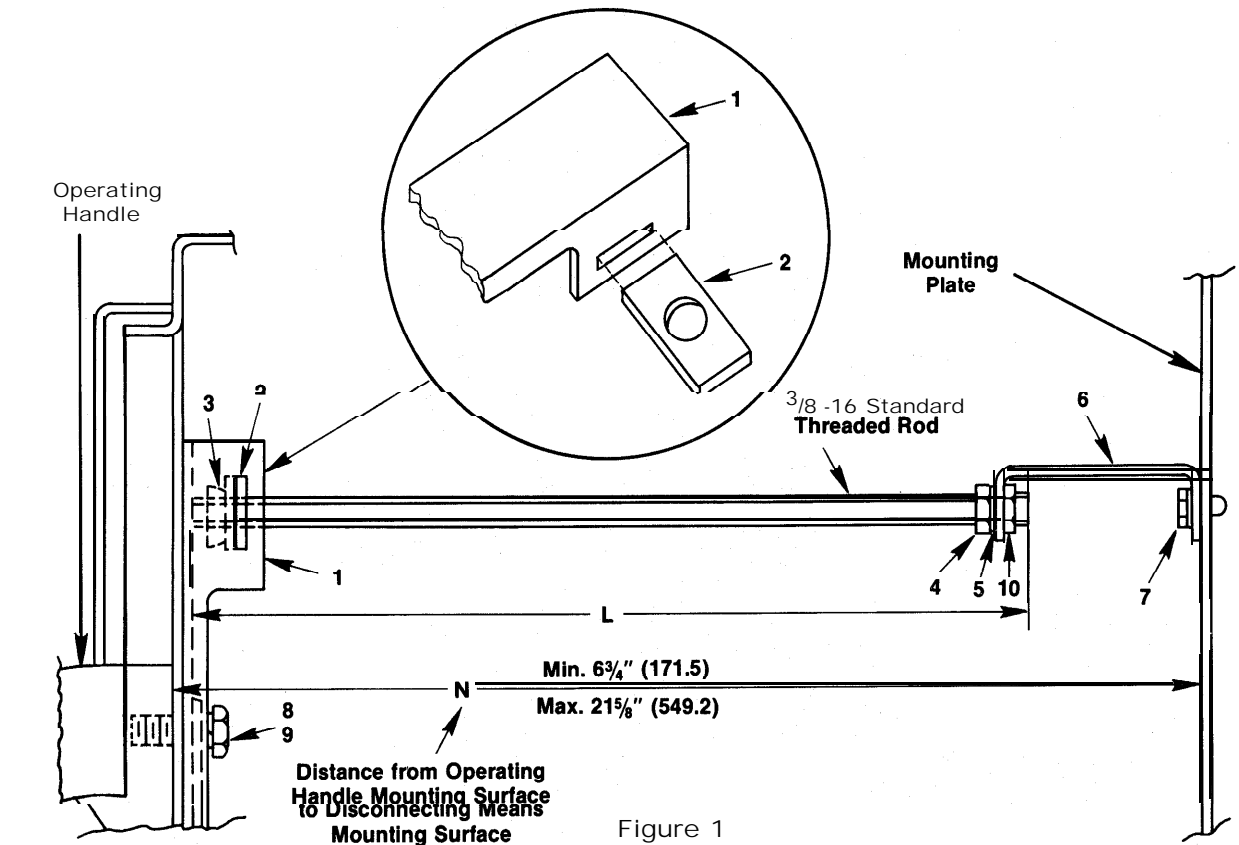

Figure 1
2. Cut the rod to the proper length $L = N - 2$ (50.8). See Figure 1. **Note:** The $3/8-16$ standard threaded rod is not supplied with this kit.
5. Insert the support plate, Item 2, into the slots in the channel support bracket. Slide the nutsert assembly, Item 3, behind the support plate as shown in Figure 1. Thread the $3/8-16$ rod assembly through the hole in the support plate into the nutsert assembly and tighten it against the channel support bracket.